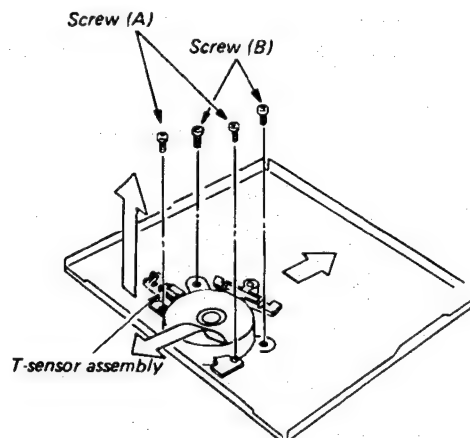

Fig. 1-3-36 Removal of reel motor assembly
1. Removal of reel motor assembly. (Fig. 1-3-36)